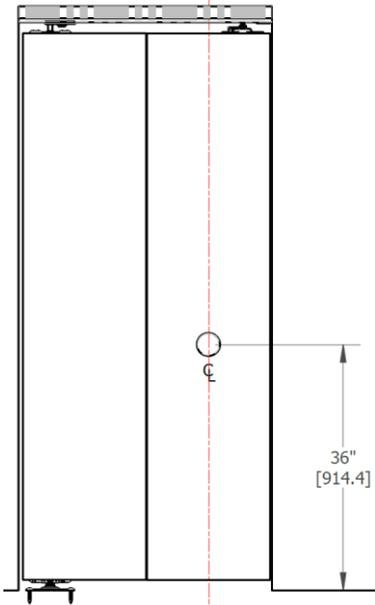

Figure 8: Wooden Knob Location
- Install the wooden knob at the vertical centerline of the guide side door as seen on Figure 8